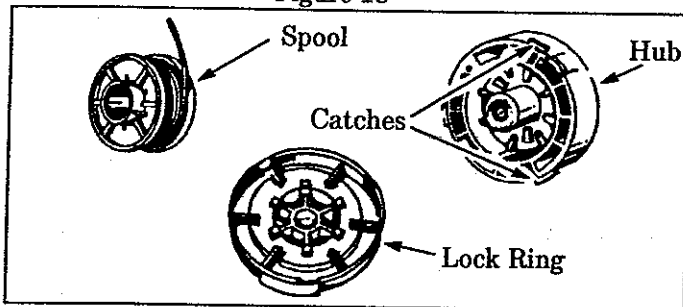

Figure 19
- b. Remove the Lock Ring and Spool. Figure 19 .
- g. Check to make sure all three Catches (Figure 19 ) and the Lock Tab (Figure 20 ) are properly fastened as shown in Figure 21 . Then test the Lock Ring by trying to turn it counterclockwise ←.